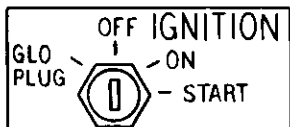

Figure 17
3. Turn key to glo-plug position until glo-plug indicator is red (for required time, see instructions inside hood). NOTE: If engine is warm, step 3 may be bypassed. (See Figure 17.)